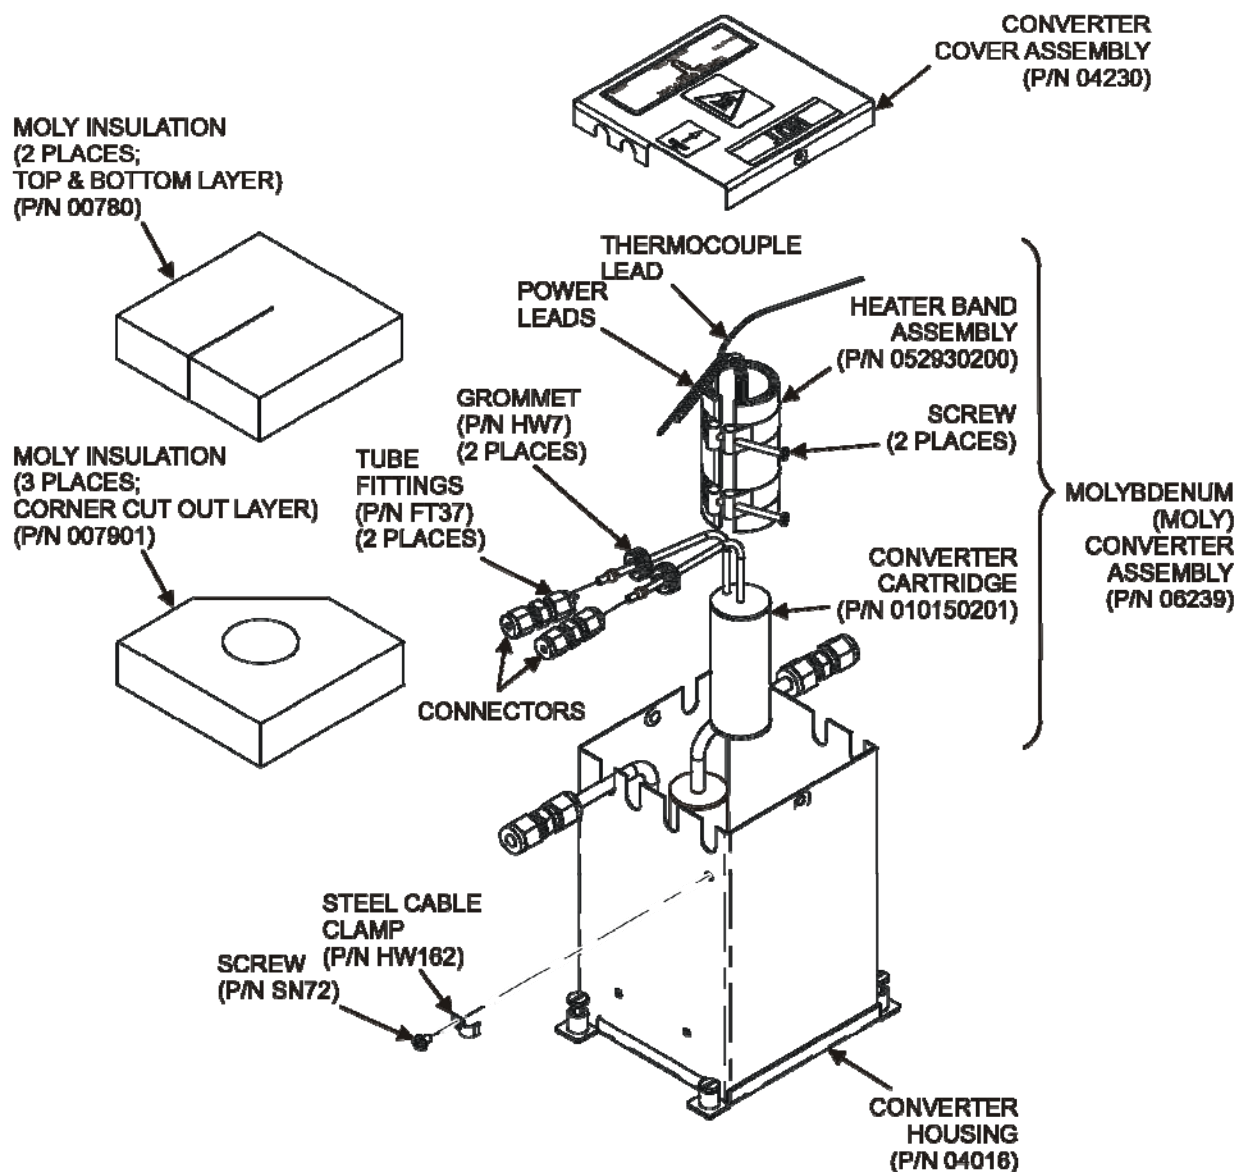
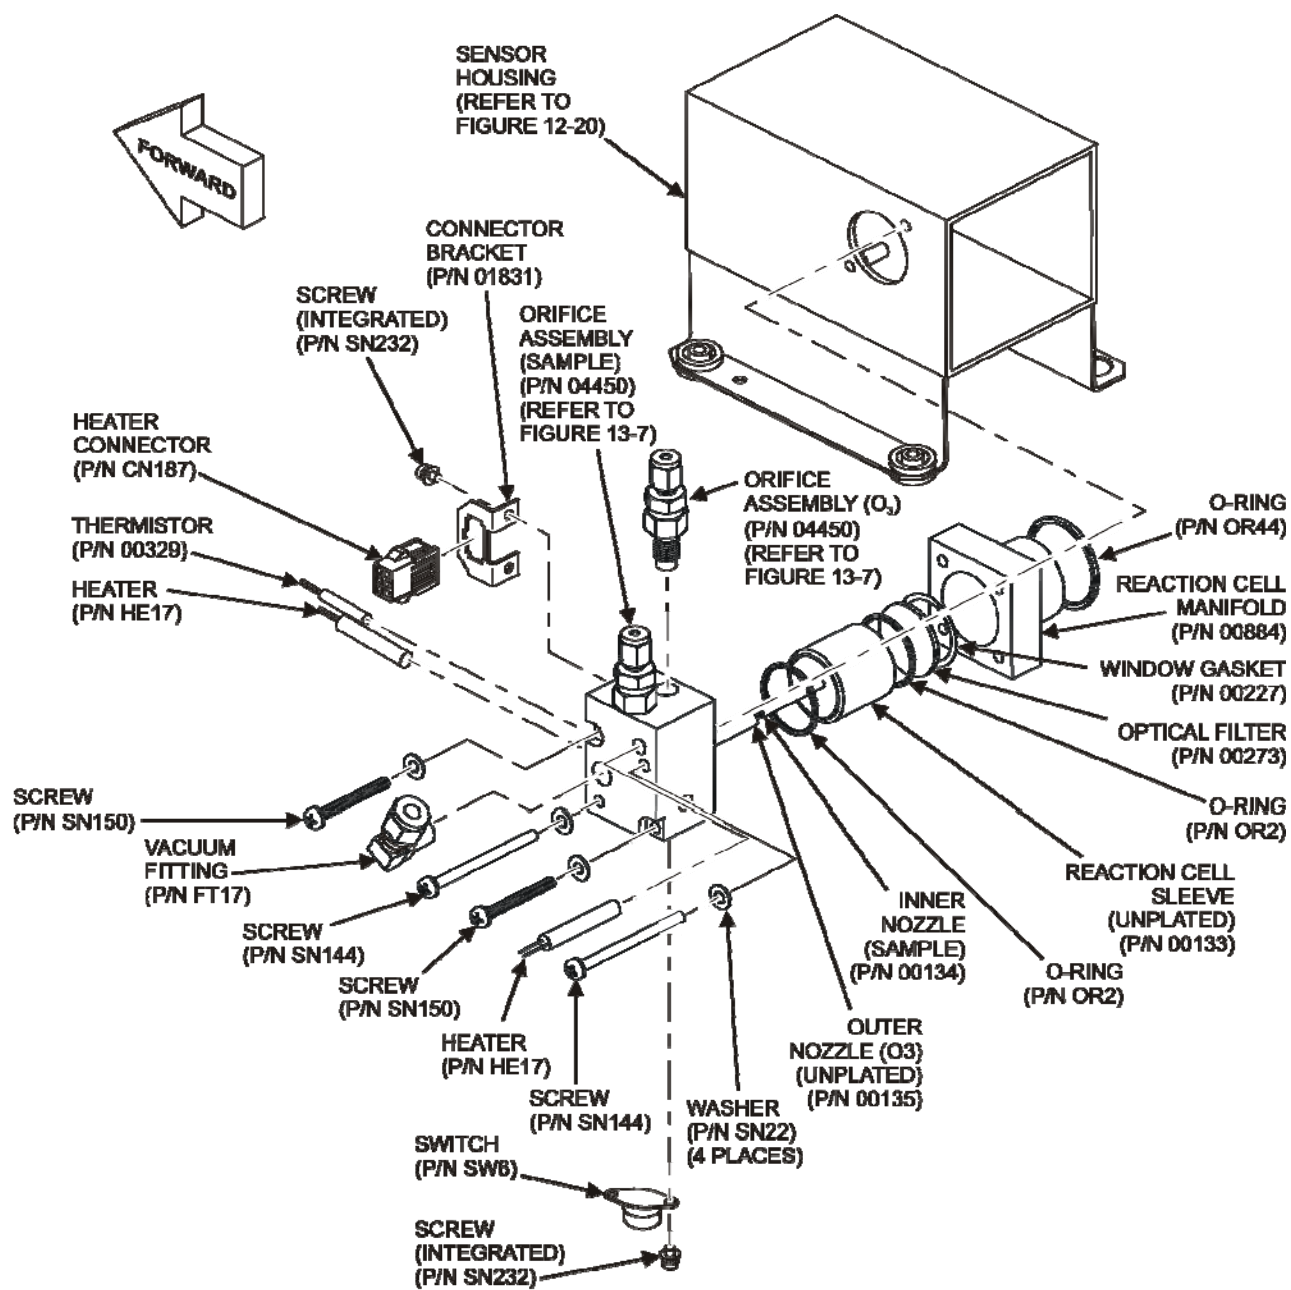

Figure 11-5: NO₂ Converter Assembly
Figure 11-6: Reaction Cell Assembly
The NO₂ converter is located in the center of the instrument, Figure 3-5 for the location, and Figure 11-5 for the assembly.
1. Turn off the instrument power and vacuum pump. Refer to Figure 11-6 for the following procedure.
2. Remove the analyzer cover and locate the reaction cell (Figure 11-5 and Figure 11-6).
4. For orifices on the reaction cell (Figure 11-6): Unscrew the orifice holder with a 9/16" wrench.